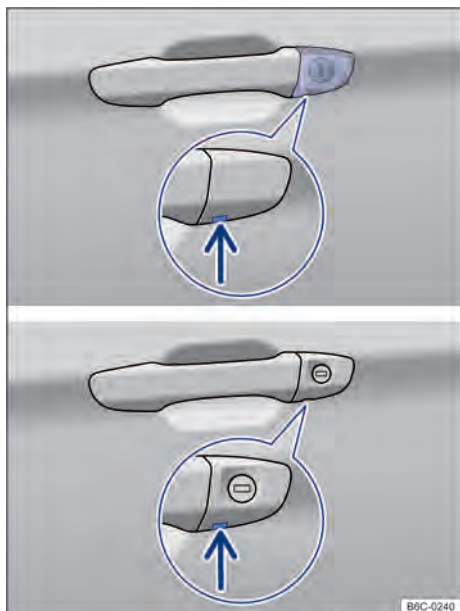

Fig. 57 Driver's door handle: lock cylinder.
- Insert the key blade from underneath into the cover opening → Fig. 57 (arrow).